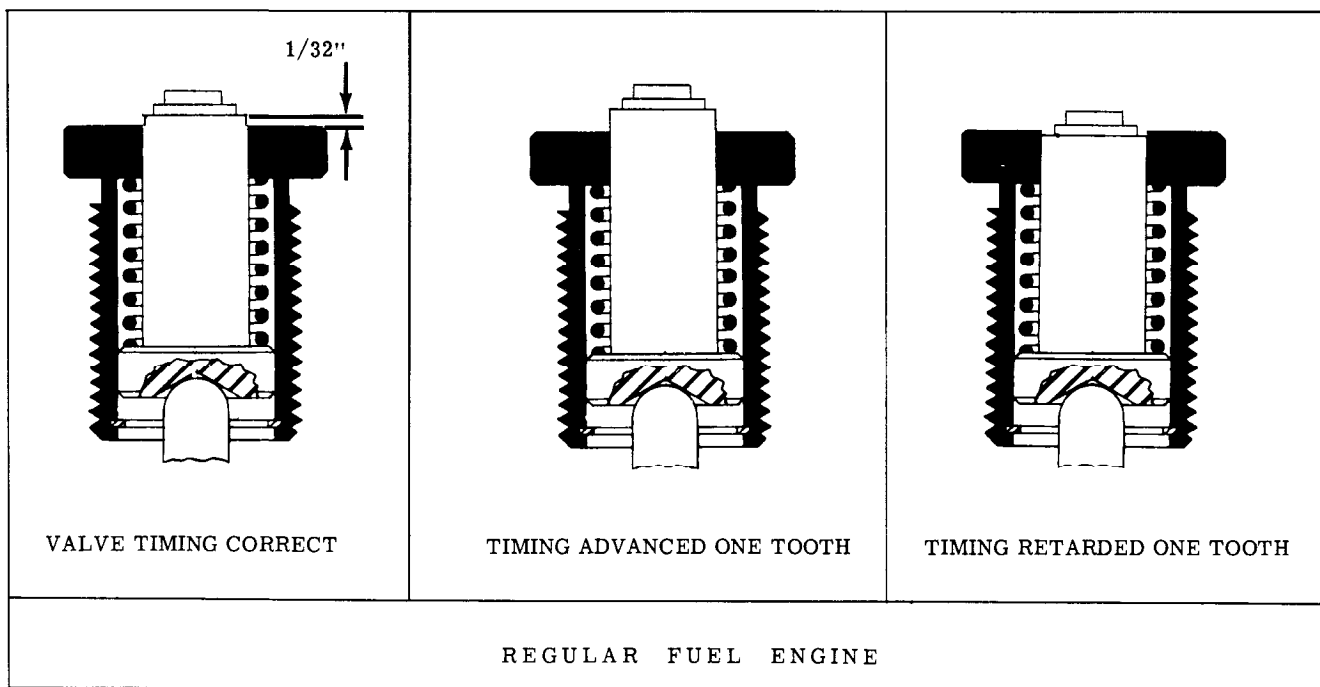

Fig. 8-40 Engine Valve Timing
6. Crank the engine ONE complete revolution so that No. 1 cylinder is again on top dead center (beginning of intake stroke). Refer to Fig. 8-40 or 8-41 for interpretation of the valve timing.